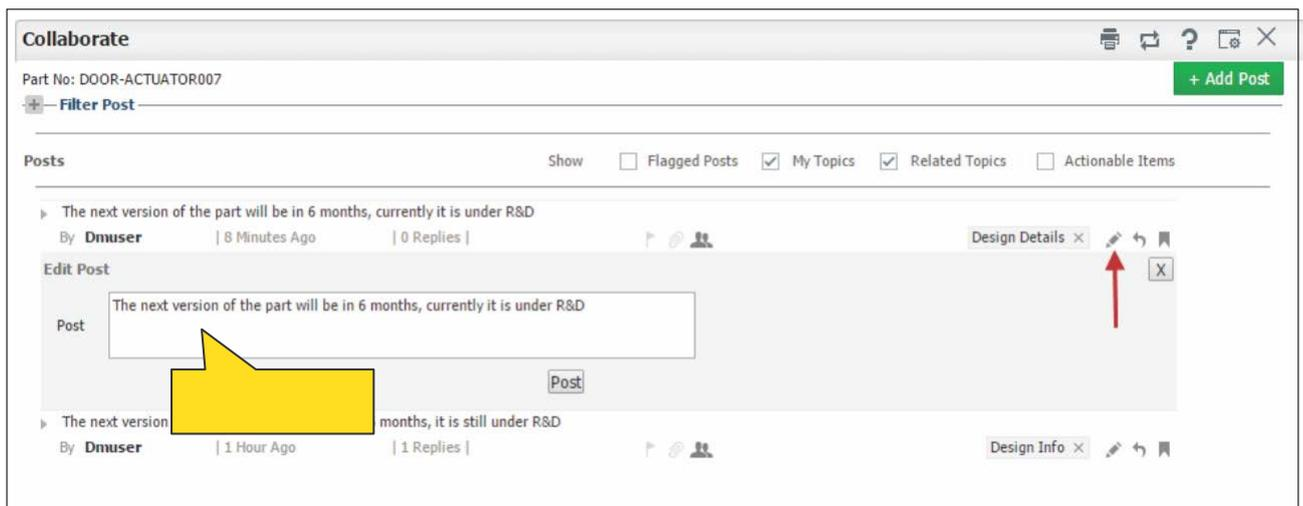

Figure 2.9 Editing a topic
1. Select the  icon. The **Edit Post** group box appears. See Figure 2.9.